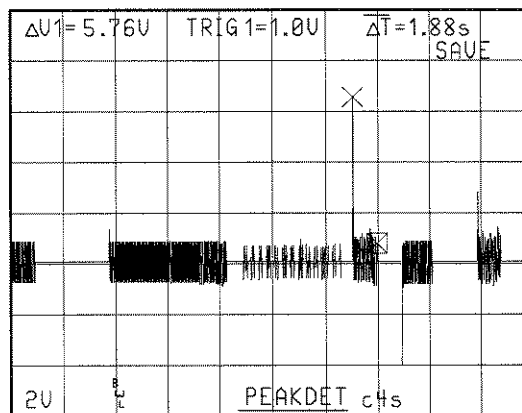

Figure 3-14: Compressed 4K Acquisition
- ☐ **Step 2:** Turn the **X10 CAL** knob counterclockwise. Note that the timing increases by a factor of four, the small letter “c” appears before the time base readout, and the signal is compressed (Figure 3-14).